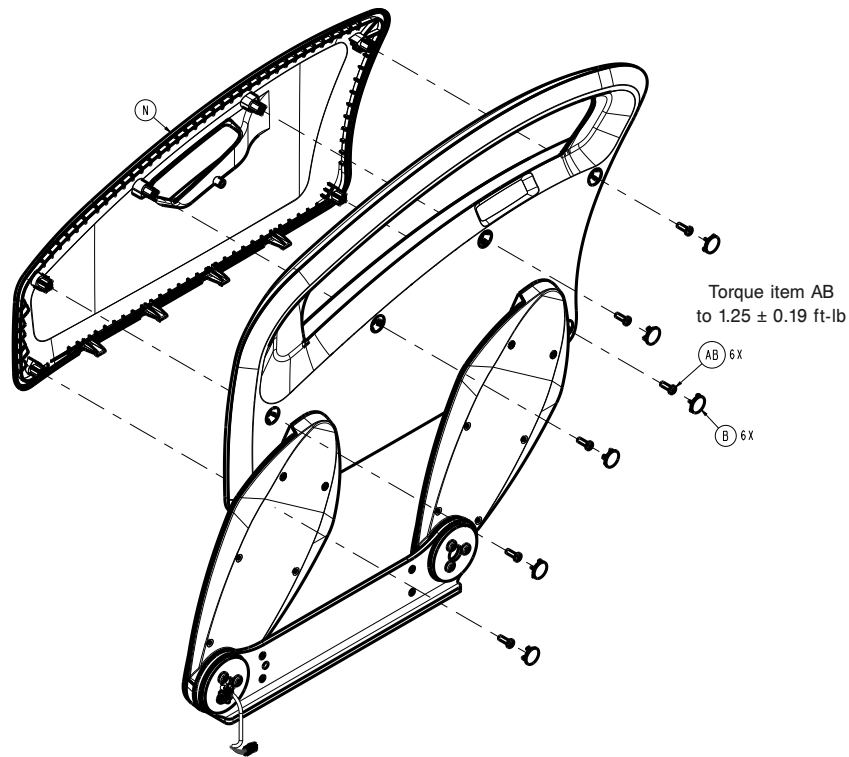

Figure 58 – Replacing the foot siderail hoop
6. Using a pick, remove the six screw covers (B) from the inside of the siderail (Figure 58). Discard the screw covers.
7. Using a T25 Torx driver, remove the six screws (AB) that secure the cover (N) to the siderail assembly (Figure 58). Remove the outer siderail cover.